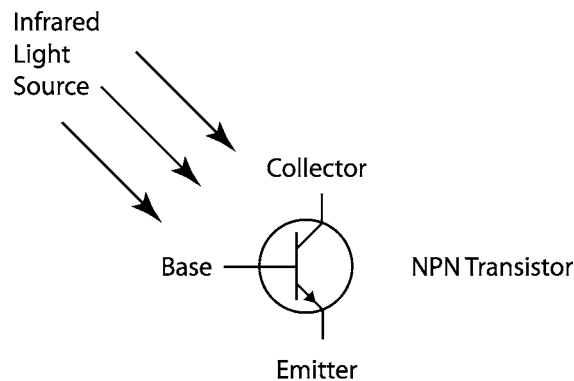
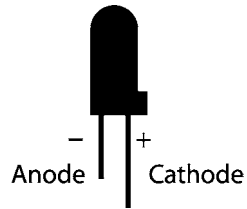

Figure 1. Schematic of an infrared detecting phototransistor.
Figure 2. An infrared detecting phototransistor.
Photosensors come in a variety of types, but the one thing that they all have in common is that they are used to detect the presence of light. Some are used to detect visible light, some detect ultraviolet light, but our photosensors detect infrared light. Some terms that are interchangeable with photosensors are infrared or IR detectors or sensors, and light sensors. The photosensors used in this lab are infrared detecting phototransistors as depicted in Figure 1 below.
2. Insert the cathode (collector) of an IR sensor into an analog input port, and insert the anode (emitter) of the sensor into the ground bus. Refer to Figure 2 to help determine which lead is the anode and which is the cathode. It is wise to remember that the cathode lead is longer than the anode, and that the anode side of the sensor has a flat face.
Using the paper compass and flashlight provided by the T.A., create an angular response curve for the center IR sensor on the CutieBot as in figure 2 of the IR datasheet that found on the lab web page. This can be done by placing the CutieBot on the floor on top of one of the paper compasses with the center IR directly over the point where the compass lines converge with the wheel axles parallel to the $0^\circ - 180^\circ$ line. Now set the flashlight on the floor at least ten feet from the CutieBot with the beam shining down one of the lines in the floor. Using the paper compass and the line on the floor as a guide record the IR level at each mark on the compass. Excel does not support a polar plot format so you will need to create the plot in Matlab. To create this plot, use excel to make a file where column 1 lists the angle in degrees and column 2 lists the normalized IR readings; save the file in .txt format. Next, open Matlab and set the current directory to the folder in which you saved your data, then enter the following commands into the command window.
The plot will come up in a new window labeled figure 1. Save the plot. Compare your plot with figure 2. of the datasheet. Explain any discrepancies in the discussion section of your paper.